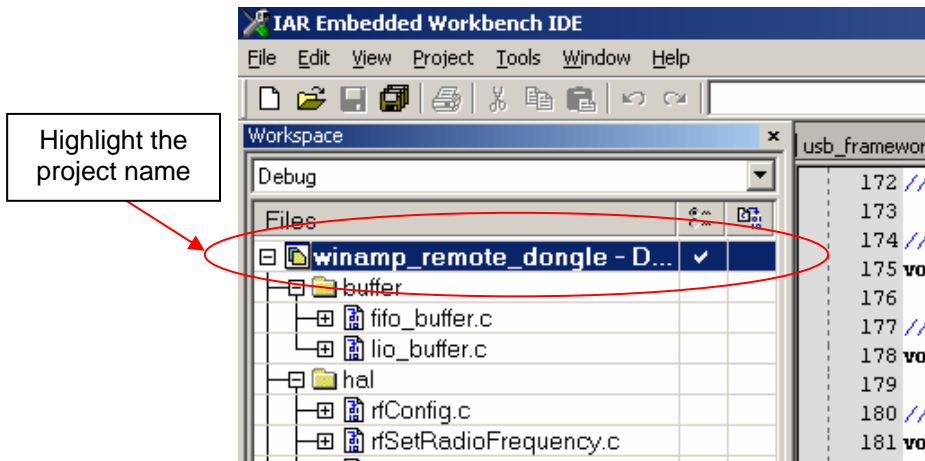

Figure 6: Highlight the project name
- Highlight the project name by clicking on it in the “Files” window. (See Figure 6)